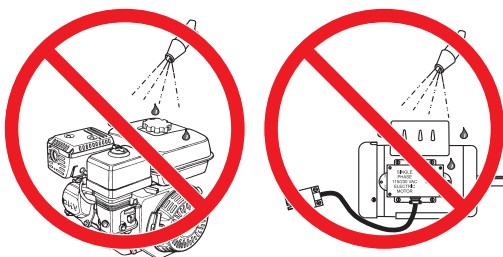

Figure 41. No Spraying of Water
9. **NEVER!** pour or spray water over the engine or electric motor (Figure 41).